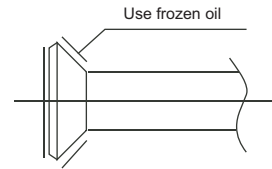

Fig.8-1
① Bend the tubing in proper way. Don't harm them.
② Daub the surfaces of the flare pipe and the joint nuts with frozen oil, and wrench it for 3~4 rounds with hands before fasten the flare nuts. (Refer to Fig.8-1)
③ Be sure to use two wrenches simultaneously when you connect or disconnect the pipes.